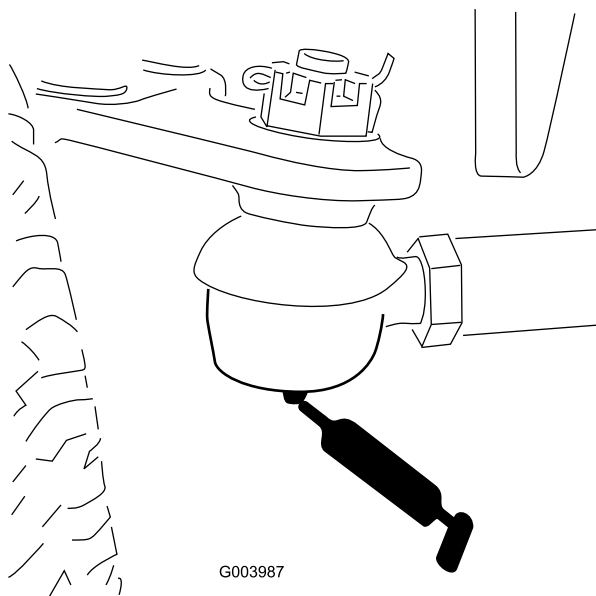

Figure 42
- Rear axle tie rod (2) (Figure 42)